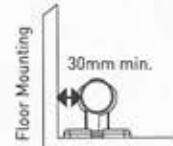

Fig.6
- Follow the minimum clearances around the heater as shown in [FIG.6].